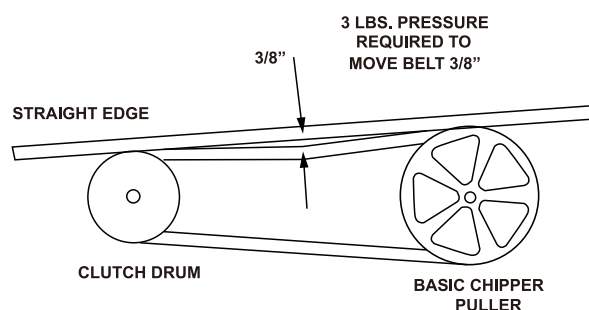

Fig. 1
The belt on your chipper should deflect $\frac{3}{8}$ " under three pounds of pressure as shown in **fig. 1** below. If it doesn't, adjust per the following directions.
3. Tighten or loosen the nut until you have the correct tension as shown in **fig. 1**.